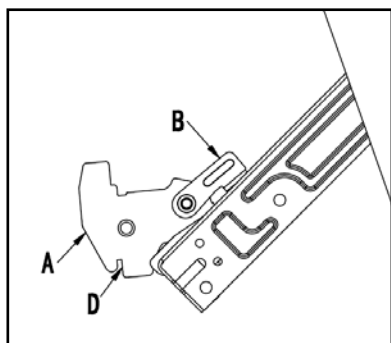

Fig 1
1. Press the button on left and right side of door (A), take out top rail pulling in direction B. (Fig.1)